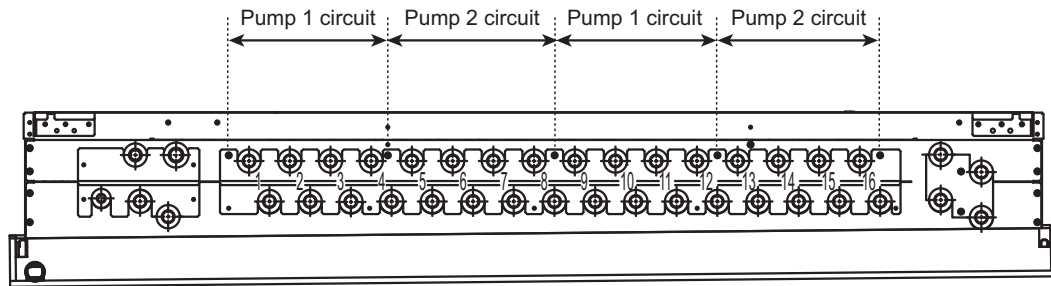

Fig. 11-2-1B
- When the junction pipes are connected to 16 HBC ports, the branched sides of the junction pipes cannot be connected to the ports "4 and 5," "8 and 9," or "12 and 13" at the same time. (See Fig. 11-2-1B.)
- When connecting the pipe to 16 HBC ports, make sure that the total capacity of the indoor units connected to ports "1 through 4 and 9 through 12" or "5 through 8 and 13 through 16" will not exceed W/WP/WL188 and will be equal as much as possible. (See Fig. 11-2-1B.)